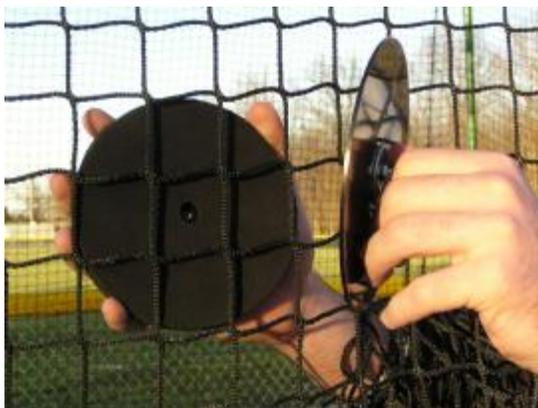

Fig. 9
3. After choosing a disc configuration to suit your needs, the next step is to install the individual discs. They should be attached to the batting cage's sidewalls approximately 4' up from the floor's surface. Place the foam-lined disc on the inside of the cage at the desired location. Make certain the threaded insert (center of disc) is centered in one of the netting's gridwork pattern of squares. (Fig. 9)